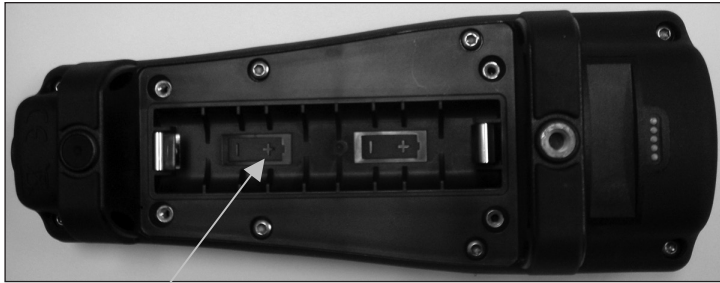

Figure 1. Pro1020 with battery cover removed. Notice battery symbols indicating polarities.
4. Install the new batteries, ensuring correct polarity alignment (figure 1).